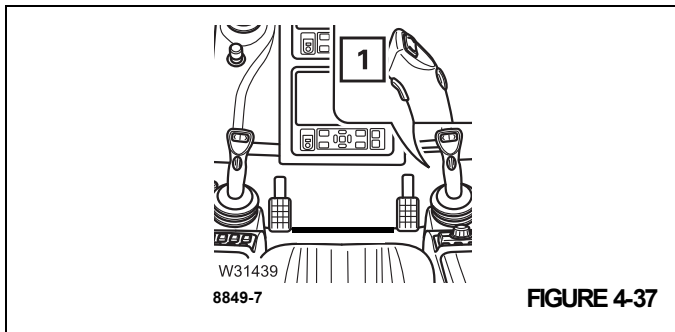

FIGURE 4-37
- Press and hold the right dead man's switch (1), (Figure 4-37) and slowly lift the hook block.